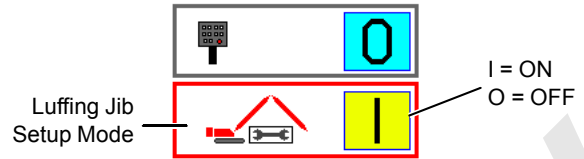

FIGURE 3-30
3. The screen shown in Figure 3-30 will appear on display.